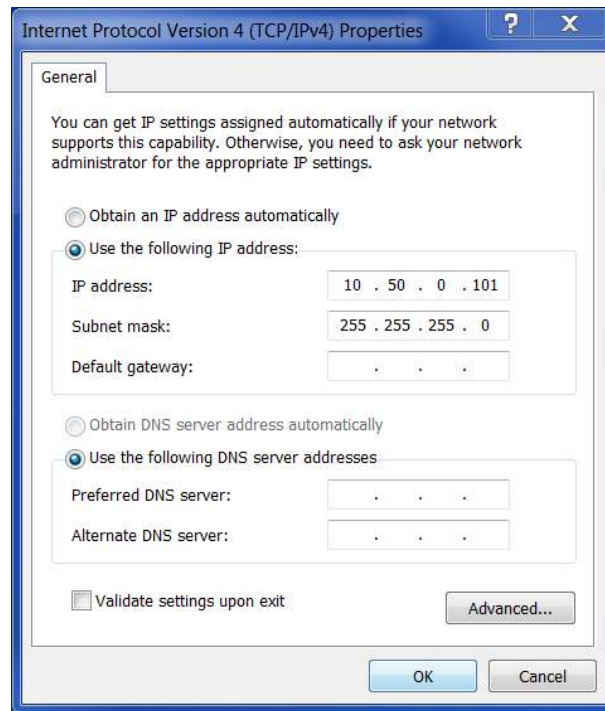

Figure 15: IP address
6. To specify the IP address (customer), enter the IP address information in the IP address and Subnet mask (255.255.255.0) fields (see Figure 15).